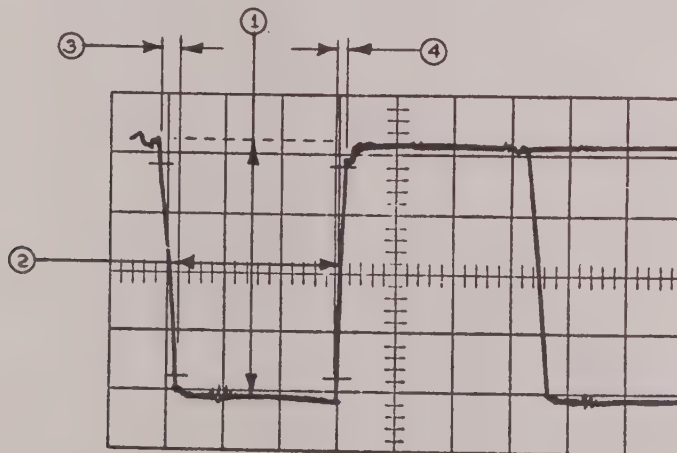

Figure 12: Errors
- h. Observe the waveform of Figure 12. Measurement (1) should be between 4.5 and 5.5 cm (4.5 and 5.5 volts). Measurement (2) should be between 3.0 and 3.5 cm (300 and 350 nsec). Measurement (3) and (4), taken at the 10% and 90% points, should be less than 0.5 cm (50 nsec).
Using the 100 Ω , 1% resistor whose ends are wired to alligator clips, fasten the resistor between the probe's tip and the GRD terminal. Measurement (1) of Figure 12 should now be not less than one half of Measurement (1) taken in the previous step.